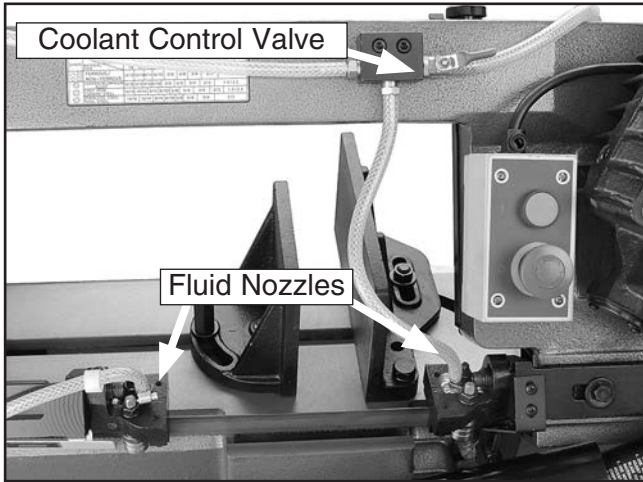

Figure 18. Coolant control valve.
- Adjust the valve on the coolant hose to control the flow of coolant (see **Figure 18**). Make sure that the pressure is not so high that coolant spills on the floor and creates a slipping hazard.